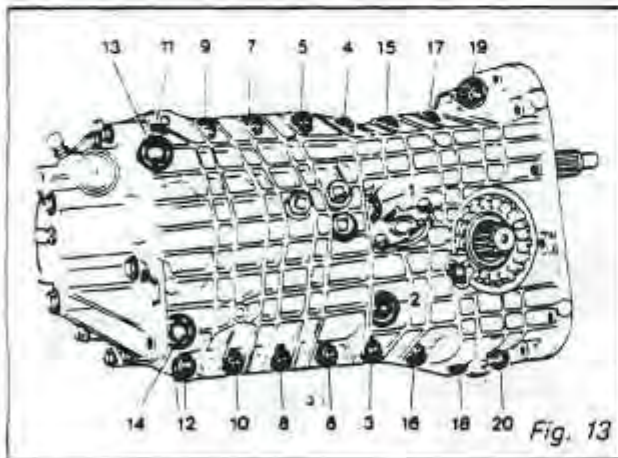

Fig. 13
12. Remove the twenty (20) bolts, securing the half-casings and separate the cases by lifting up on the case half containing differential adjusting nut (left-hand case). (Fig. 13)
3. Install left-hand case and torque tighten the bolts in the correct sequence. (Fig. 13)